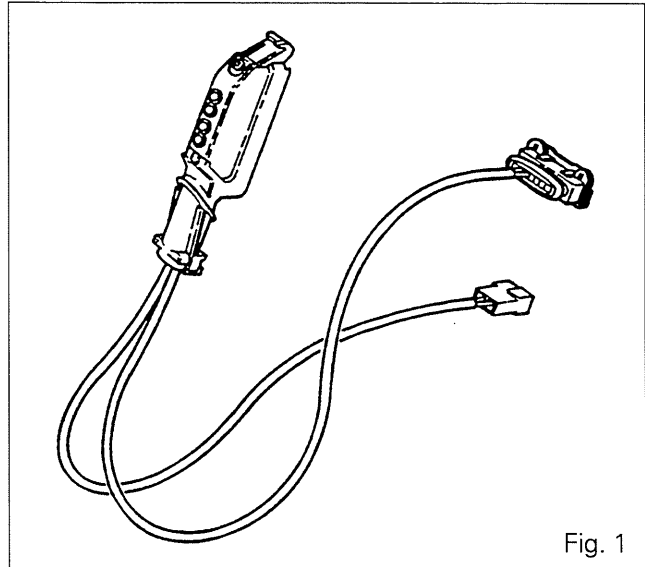

Fig. 1
- Connect harness number 3712723M1 (Fig. 1) to connectors **A** and **F**. Connector **A** has four Dynashift indicator lights (A, B, C and D) and a clutch contactor earth connection, input line **A16**.